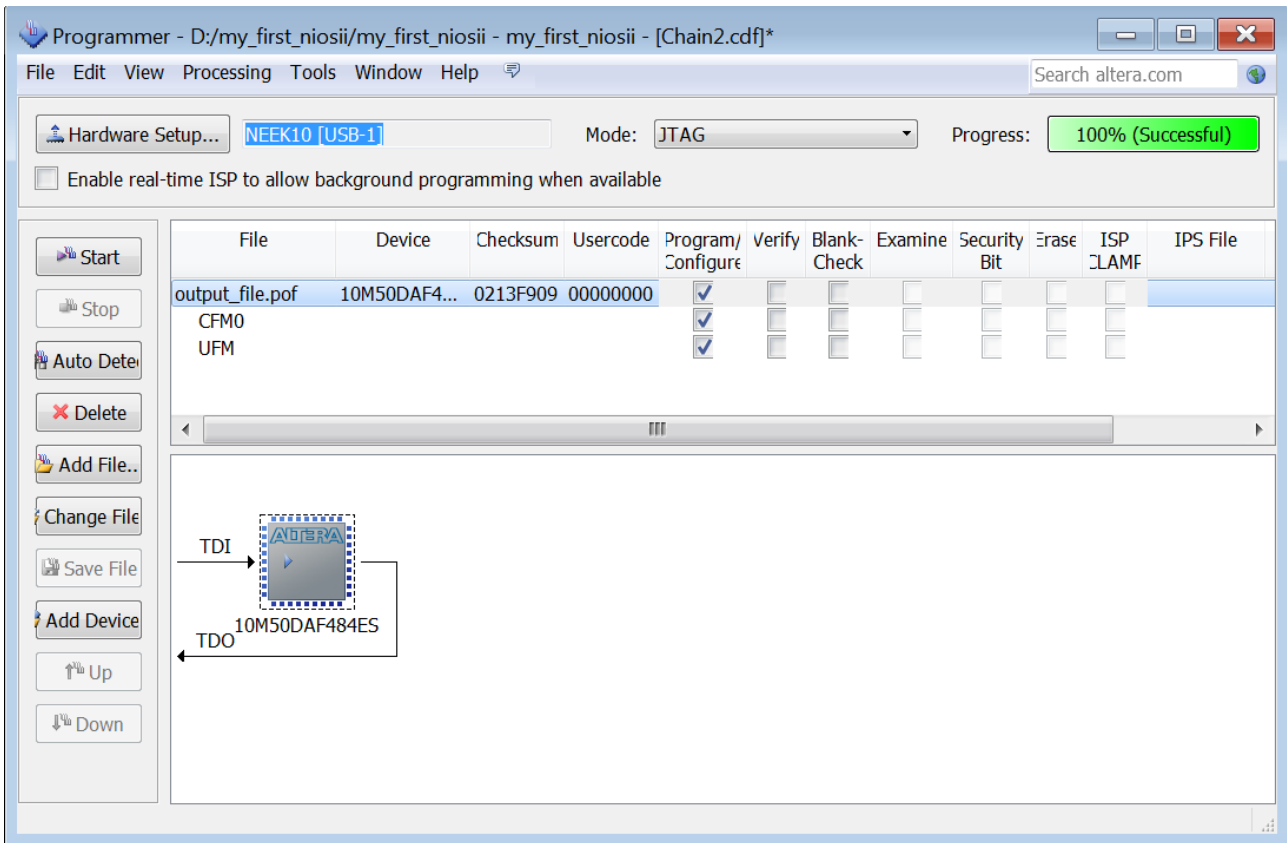

Figure 3-18 Program output_file.pof
6. Check the **Program/Configure** option in Programmer for output_file.pof .Click **Start** to begin the programming, as shown in **Figure 3-18**.